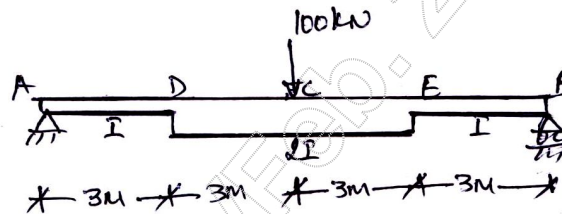

Fig.Q6(a)
- 6 a. Find the maximum slope and maximum deflection for the loaded beam shown in Fig.Q6(a) by moment area method.